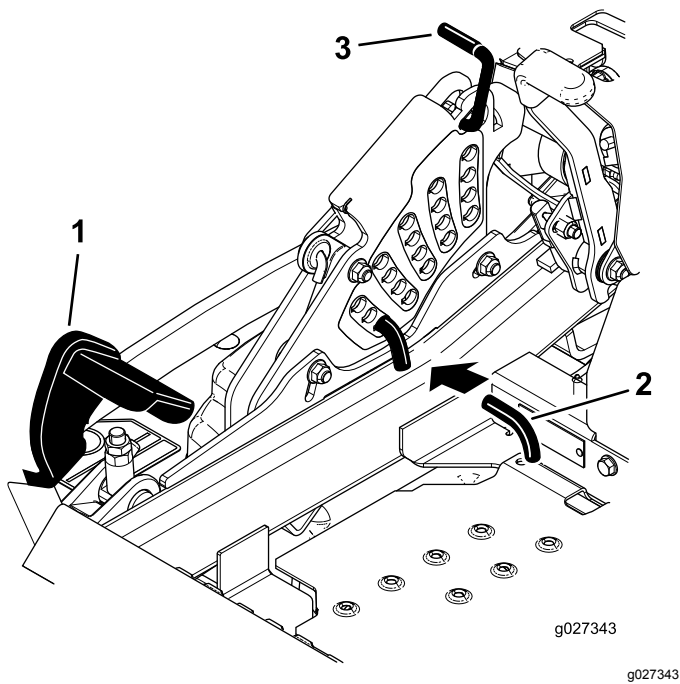

Figure 85
5. Push the deck-lift pedal all the way forward so that the deck latches at the 14 cm (5-1/2 inches) transport position (Figure 85).